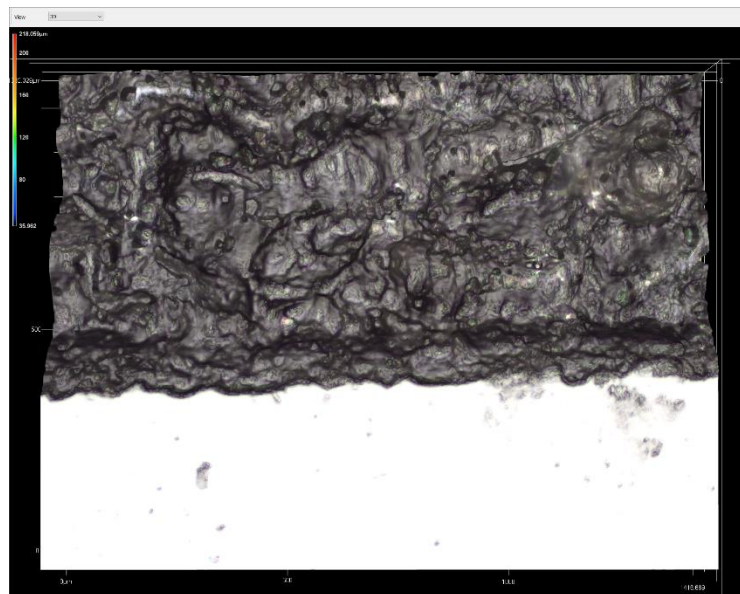
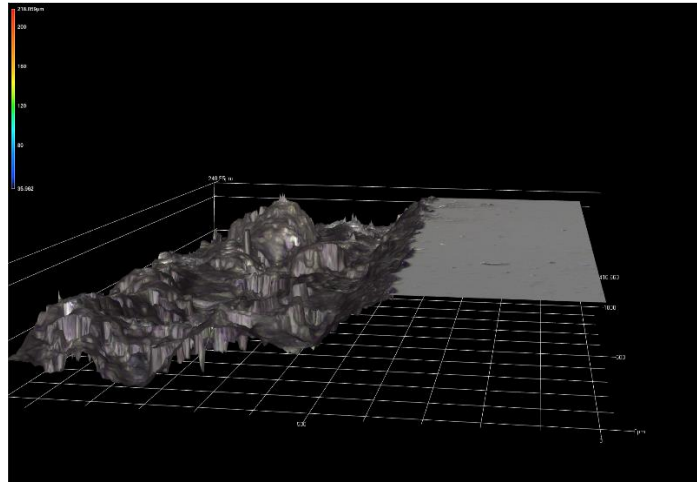

Figure 9: Software output upon immediate completion of scan. 3D top view of scanned surface.
Figure 10: 3D Isometric view of scanned surface.
Upon opening the analyzer your screen should resemble what is seen in *fig. 10*. The main page will contain your different R.O.I.s. It will display them in 3 forms, Laser+Optical, Height, and 3D Image along with a Height color bar, and a column showing the date and time of the measurement.
It is the simplest analysis to perform. Just click on “Vol & Area” on the main page (*fig.9*), then click “OK” on the screen that pops up (*fig.10*). The software will calculate the following and automatically apply it to all R.O.I.s:
2. Click on “Surface Roughness” from the main window (*fig.9*).
2. Click on “Line Roughness” from the main window (*fig.9*).